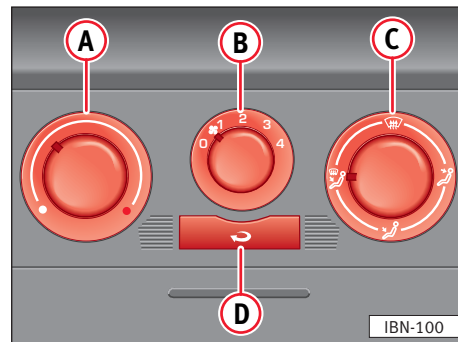

Fig. 84
- Turn rotary regulator **(C)** to the area between the air distribution at  and  ⇒ **fig. 84**.